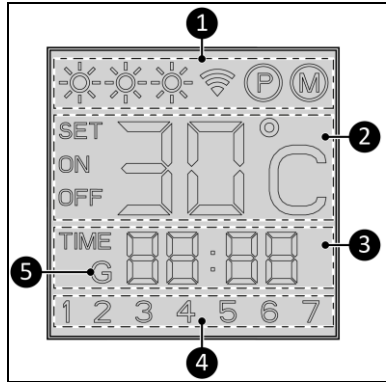

Figure 5
Status indication (Figure 5, pos. 1):
Temperature indication (Figure 5, pos. 2):
Time indication (Figure 5, pos. 3):
Day indication (Figure 5, pos. 4):
Wi-Fi indication (Figure 5, pos. 5):